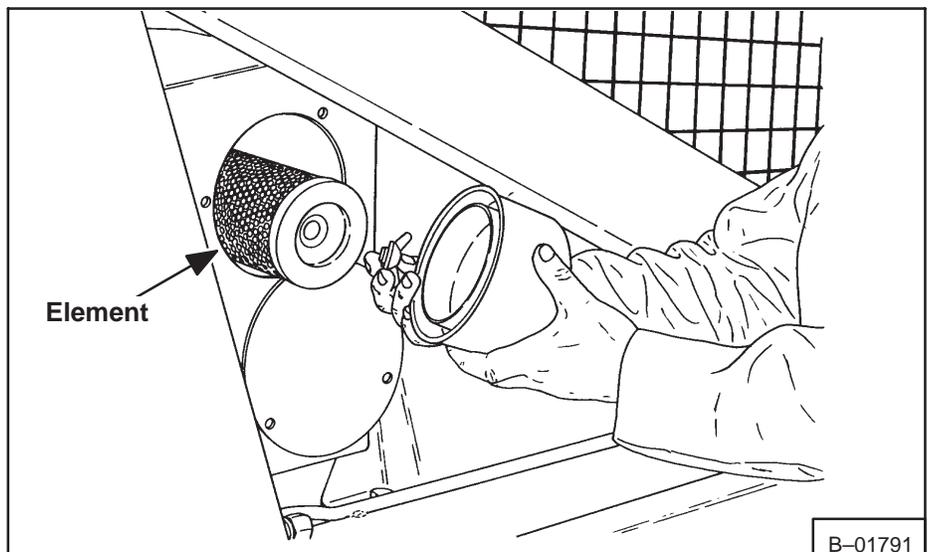

Fig. 1-15 Removing Air Cleaner Element
4. Install clean cartridge carefully to be sure of good seal. Be sure that the cartridge gasket is in good condition and the new plastic washer is correctly installed under the wing nut. Tighten the wing nut by hand (Fig. 1-15).